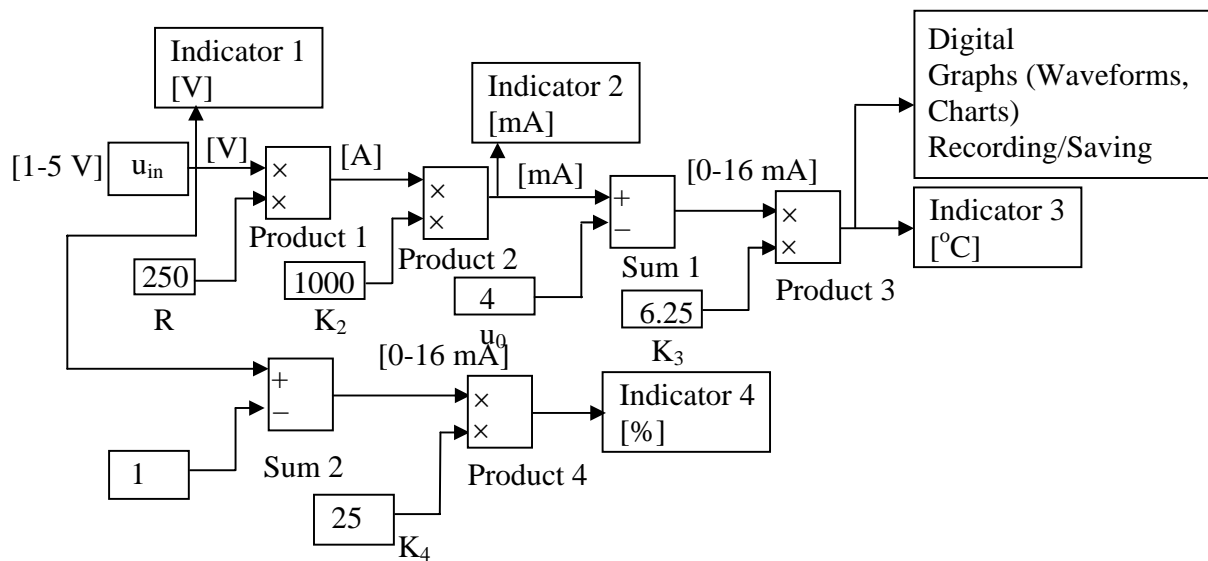
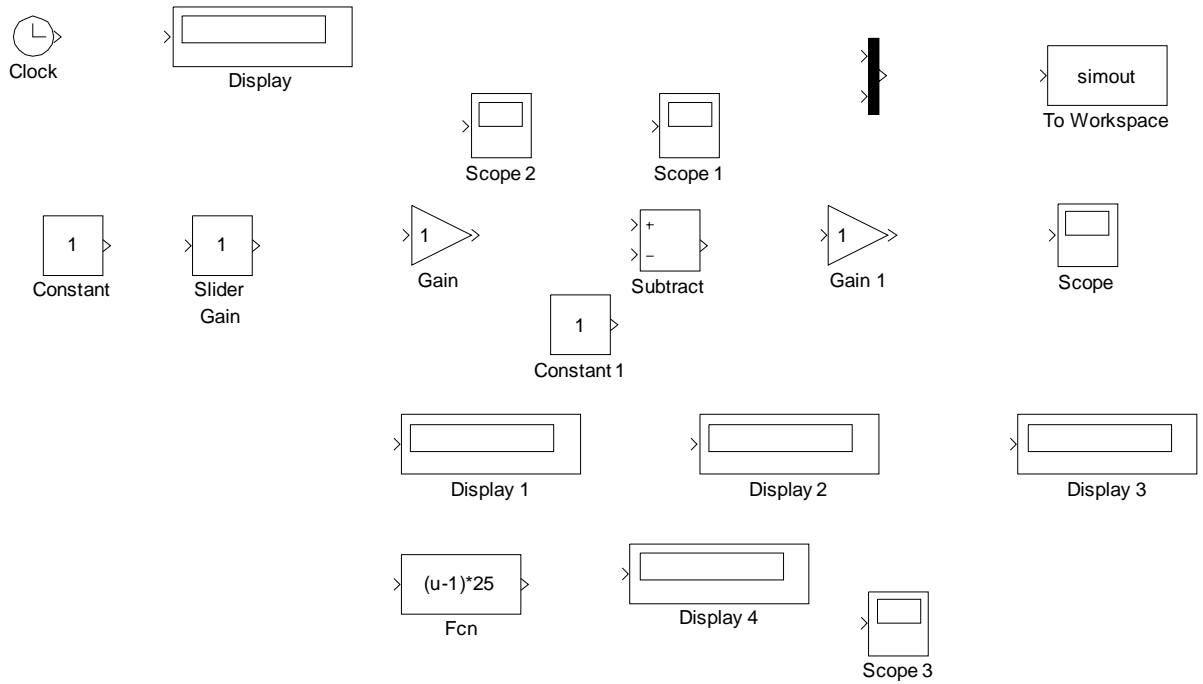

Figure 15 Block diagram for temperature measurement
Figure 16 Necessary blocks for block diagram algorithm in Fig. 15
- Refer to the block diagram algorithm in **Fig. 15** select all necessary blocks from the Simulink Library Browser as in **Fig. 16**.